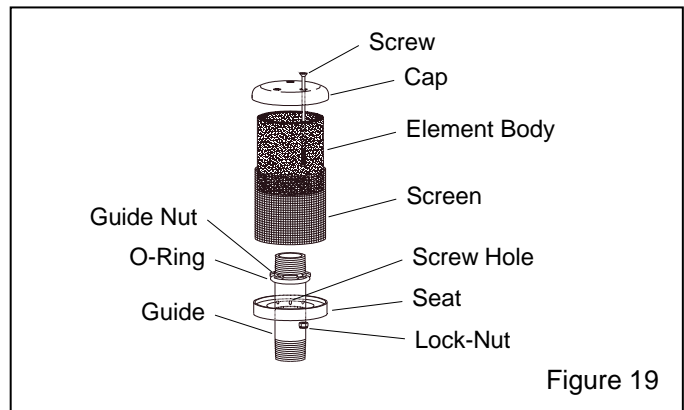

Figure 19
**5.10 Exhaust Muffler, Figure 19**
**5.10.7** Reassemble, taking care to correctly insert the screws in the seat plate. The screw holes are the three closest to the center. See the illustration in Figure 19.